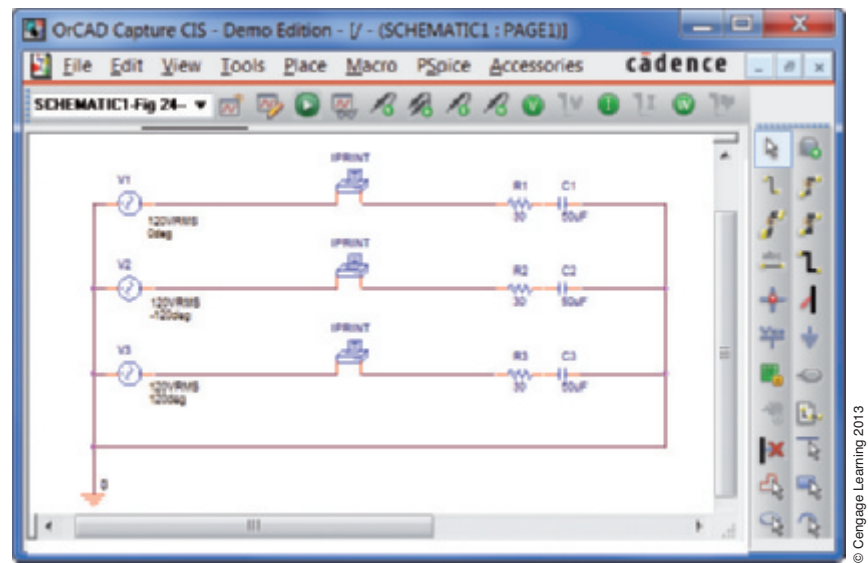

FIGURE 24–44 Solution by PSpice.
- To annotate the diagram as in Figure 24–44 (i.e., with points A, B, C, N, etc., identified), click the *Place text* icon on the tool palette, key in the text, and place as desired.
phase angle as indicated. Similarly, double-click each IPRINT device and set *MAG* to **yes**, *PHASE* to **yes**, and *AC* to **yes**. Via the New Profile icon, select *AC Sweep/Noise*, set the *Start* and *End* frequencies to **60Hz** and the number of points to **1**. Run the simulation, open the *Output File* (found under *View* in the results window), then scroll down until you find the answers. (Figure 24–45 shows the answer for current I_a .) Examining the results, you will see that they agree exactly with what we calculated earlier.